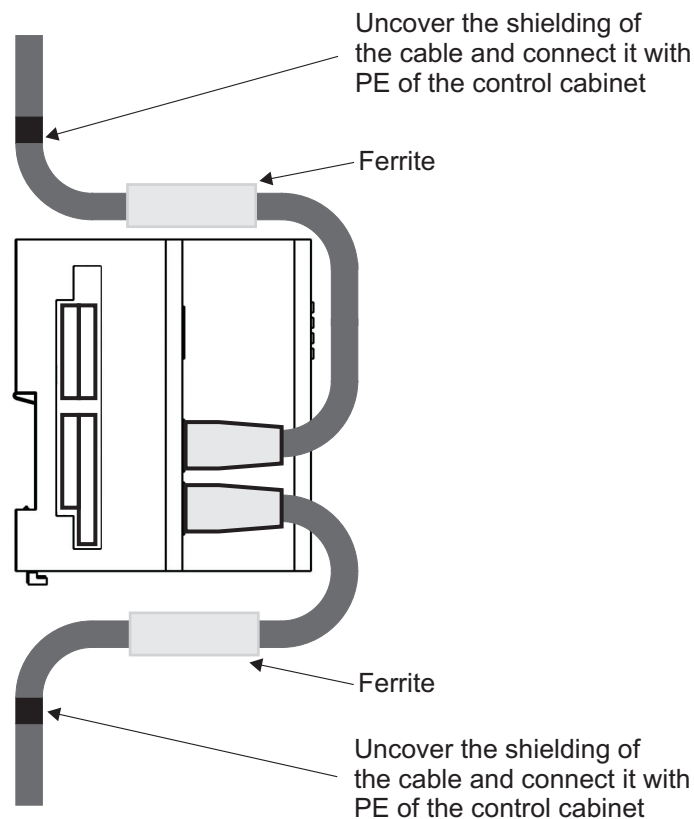

Figure 13: Cable routing
- ▶ Lay the connecting lines as stipulated in ▶Figure13◀. First the shielding of the cable must be uncovered. The length of the uncovered shielding should correspond to the width of the cable clamp. The cable is fastened with the clamp so that the shielding and the PE of the control cabinet are connected electrically.
- ▶ Mount a ferrite on every cable between the plug and the contact area on the mounting plate (see ▶Figure13◀) to reduce the electromagnetic perturbing radiation.